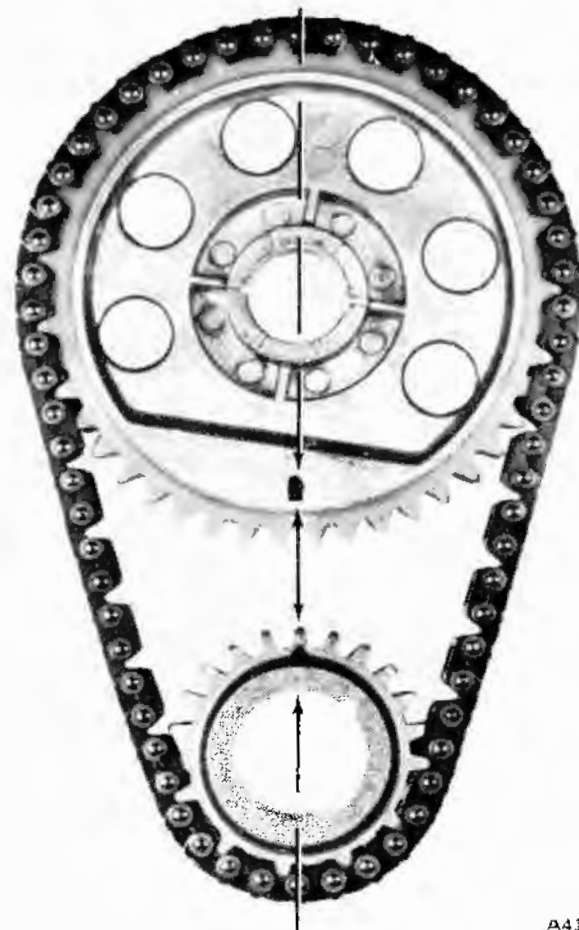

Fig. 1B-23 Timing Chain and Sprockets Alignment
- (1) Assemble timing chain, crankshaft sprocket, and camshaft sprocket with the timing marks aligned as shown in figure 1B-23.
- (2) Install assembly to crankshaft and camshaft.
- (3) Install fuel pump eccentric and distributor drive gear.
- (4) Install camshaft sprocket, washer, and retaining bolt. Tighten bolt to 30 foot-pounds torque.